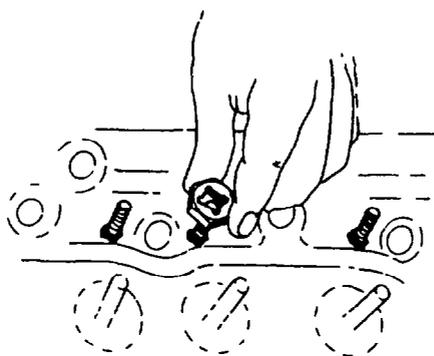

Fig. 45 — Checking Stud Threads
- b. Check the threads on all the studs with a die (see fig. 45).